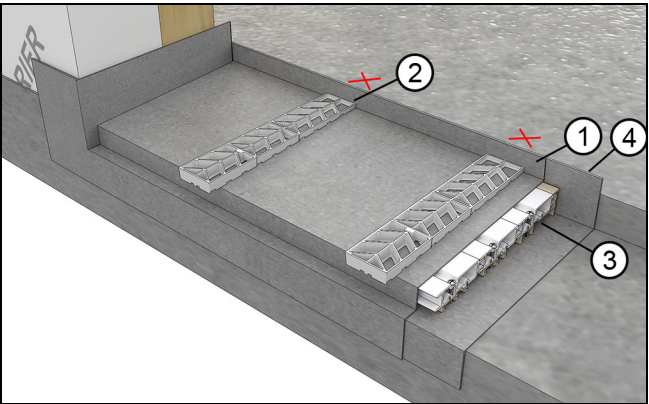

Figure 14 Set counter-shims
3. Place the counter-shims in the panning every 10"(254) using the marks you made earlier as a guide. The counter-shims should be placed beside the fastener locations (opposite side of the drain routs). See Figure 14.